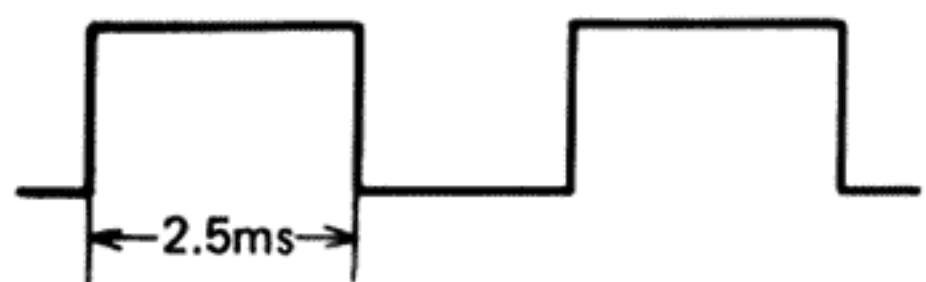

Fig. 1
1. The Pulse width at the OF₂ terminal of the drive control ass'y (PWG-012) at PXM-051 is a constant 2.5ms and a frequency proportional to the speed is output (Fig. 1).